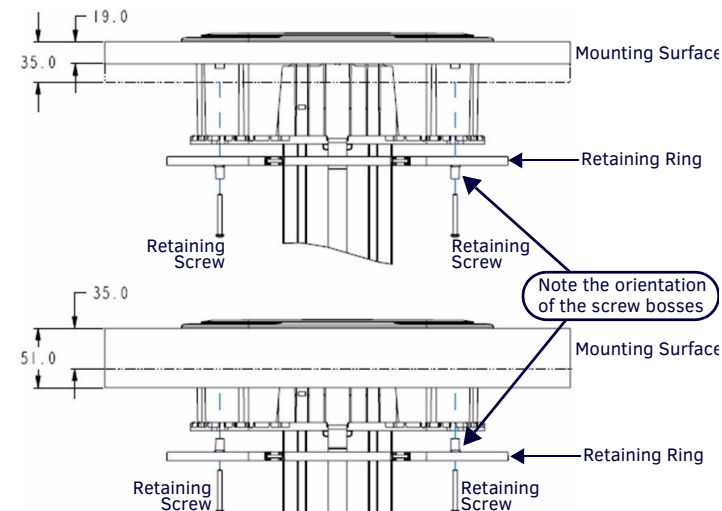

FIG. 5 DIRECTION OF THE SCREW-BOSSSES, BASED ON SURFACE THICKNESS (19MM VS. >19MM THICK)
- Through the retaining ring, (note the orientation of the retaining ring - see FIG. 5 on page 2),
Note the direction of the screw bosses, as indicated in FIG. 5: